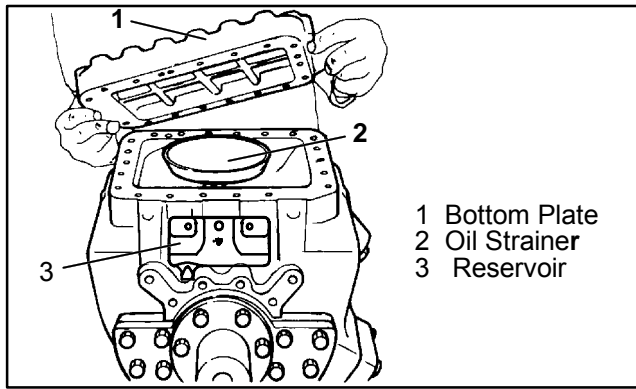

Figure 3-10. Bottom Plate Removal
- a. Turn the compressor over, bottom side up, and remove the bottom plate. (See Figure 3-10) Scrape off gasket.